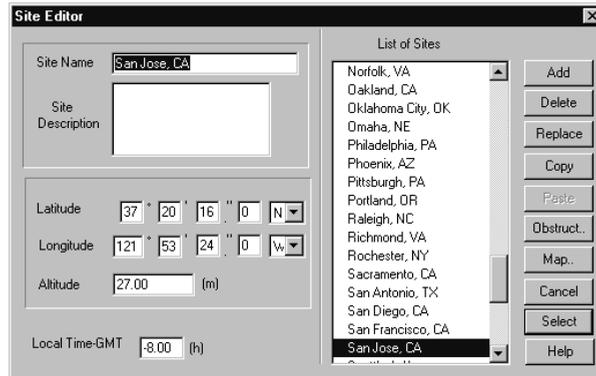

Figure A.5. Site Editor Dialog Box
3. Click **Open** to open the project and the **Site Editor** dialog box, Figure A.5.